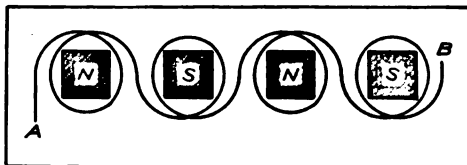

FIG. 24. CONNECTION OF FIELD COILS
When all the coils are wound, connect them as shown in Fig. 24, so that the current will flow in alternate directions in
adjacent coils, or in the same direction in alternate coils. The two-pole field magnet is represented by the first two poles (N) and (S), Fig. 24, and the winding is also shown, being in opposite directions on the two poles. The ends (A) and (B), of the winding should be brought up to a connection block, which will be described later.